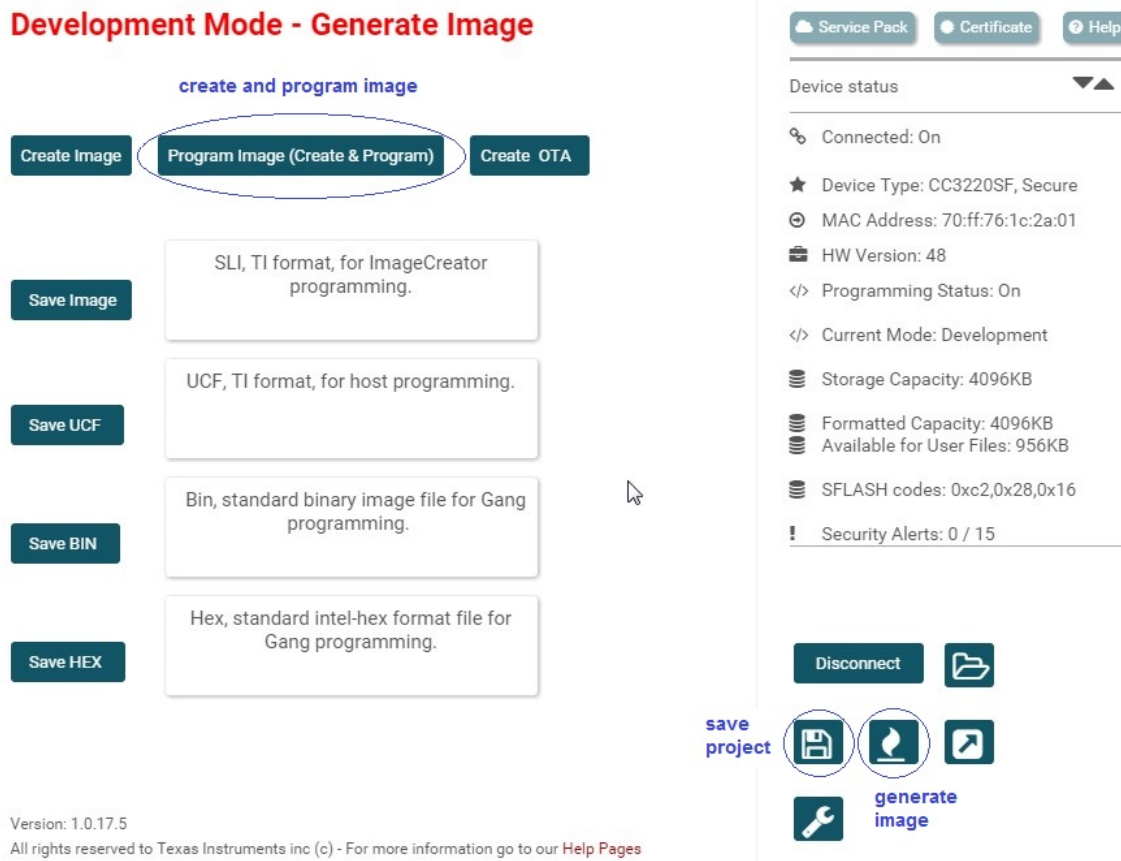

Figure 41. UniFlash Generate and Program Image
- Finally, click on the Program Image (Create and Program) button (see Figure 41). The image is now programmed to the device.